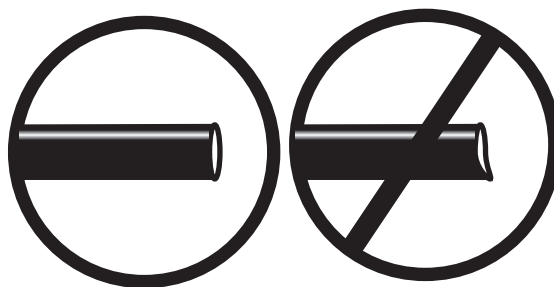

fig. 2
WHEN CUTTING OR TRIMMING THE AIR LINE, USE A HOSE CUTTER (GG), A RAZOR BLADE OR A SHARP KNIFE. A CLEAN, SQUARE CUT WILL ENSURE AGAINST LEAKS. DO NOT USE WIRE CUTTERS OR SCISSORS TO CUT THE AIR LINE. THESE TOOLS MAY FLATTEN OR CRIMP THE AIR LINE, CAUSING IT TO LEAK (SEE FIG. 2).
1. Run a length of air line (G) from the air fitting on the compressor to the end of the switch cluster.
- a. Check the air line connection by deflating the spring and removing the line by pulling the collar against the fitting and pulling firmly on the air line. Trim 1” off the end of the air line. Be sure the cut is clean and square (see fig. 2). Reinsert the air line into the push-to-connect fitting.